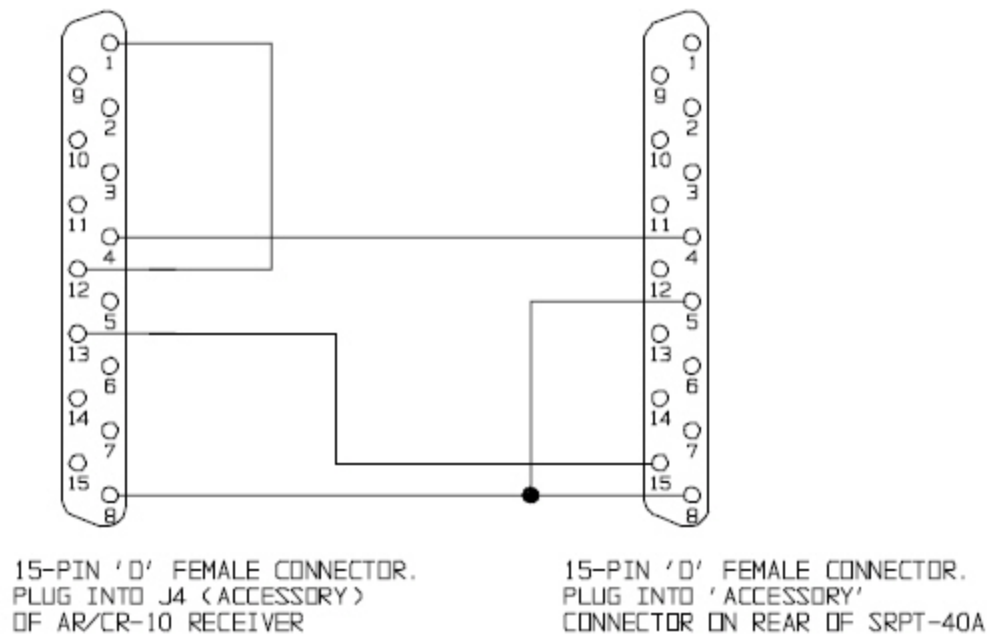

Figure 2-4. Fixed Repeat Cable.
4. For fixed automatic repeater operation, connect Cable No. 585-143 (Figure 2-4) between accessory connectors of the receiver and SRPT-30/40A transmitter. Connect receiving antenna to receiver J6 and transmit antenna to SRPT- 30/40A ANTENNA connector.